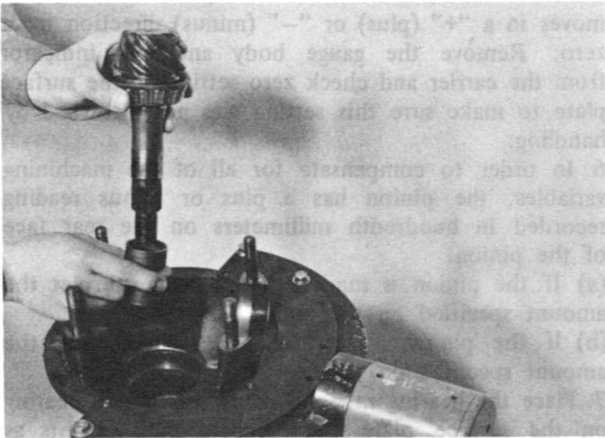

Fig. 9-15 Installing pinion and collapsible spacer
1. Install the collapsible spacer as shown in Fig. 9-15.